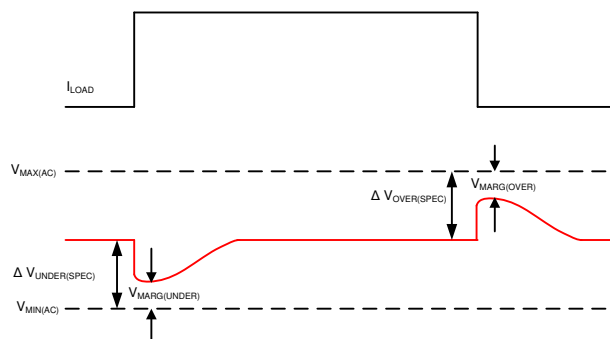
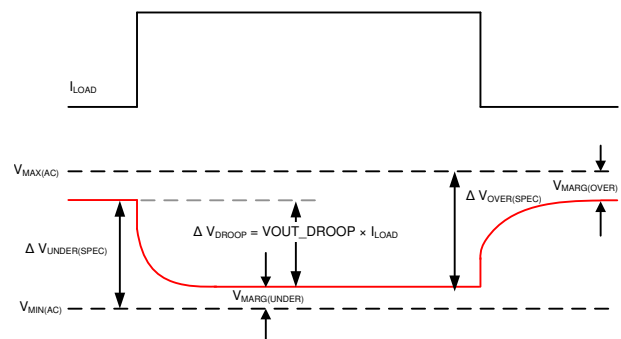

Figure 7-17. Load transient specification (zero load line)
Figure 7-18. Load transient specification (non-zero load line)
- Adaptive voltage positioning increases the allowable undershoot and overshoot during load transient events. Figure 7-17 and Figure 7-18 compare example output voltage specifications for systems with zero load line and non-zero load line. The nominal setting for the output voltage is chosen to be higher, to allow the entire transient window as margin for transient overshoot and undershoot.